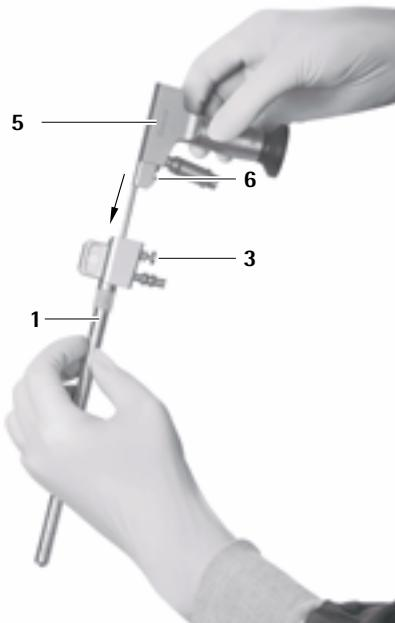
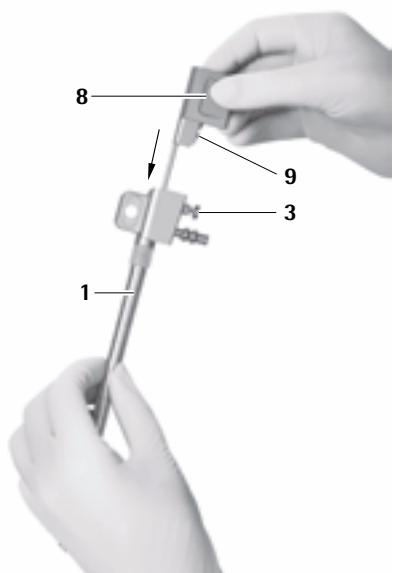

Fig. 14
Fig. 15
- ▶ When doing so, ensure that the locking pin **6** of the endoscope **5** or the locking pin **9** of the obturator for the optical channel **8** is on the same side as the release button **3** of the MINOP inVent trocar **1**, see Fig. 14 and see Fig. 15.